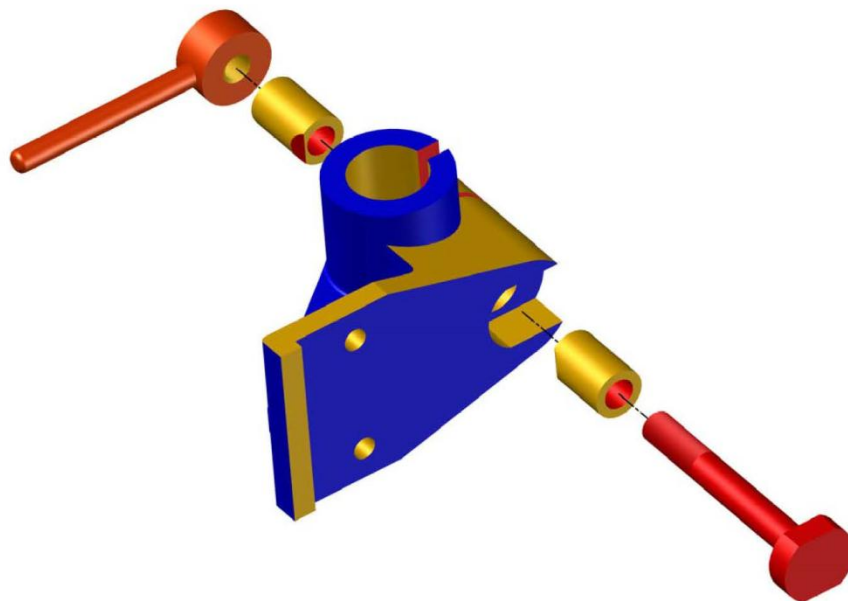

FIG. 6a
An exploded view of a Clamp Bracket is shown in Figure 6a. Detailed working drawings of the separate parts are given in Figure 6b on the attached A3 sheet. Two identical bushes (item 2 & 3) fit in the 26 mm diameter hole of the bracket (item 1). The plain end face of the bush (item 2) is to be assembled 5 mm above the outside top side of the bracket. The 12 mm radius arc is to be aligned with the 40 mm diameter bore of the bracket. Face marked P on the bush has to match the inner curvature at the mark Q of the bracket. The other bush (item 3) is assembled similarly with the plain end on the lower side of the bracket.